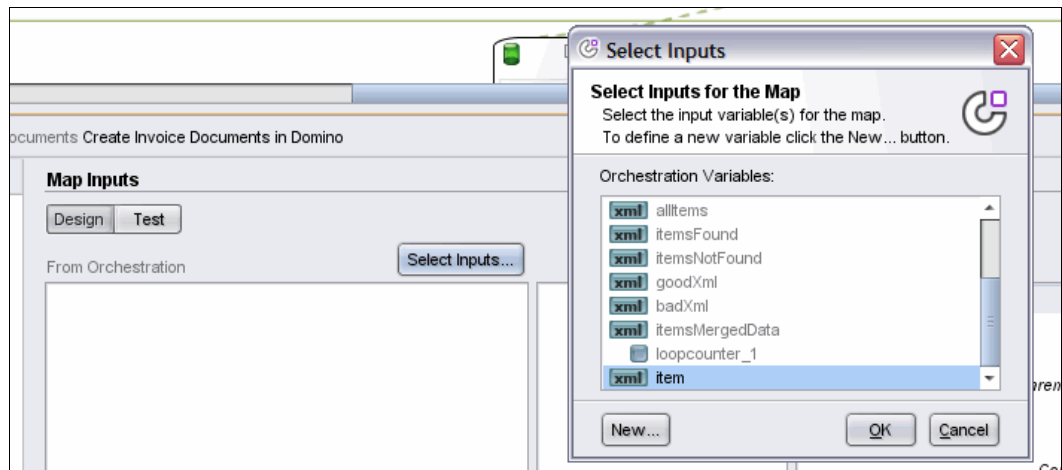

Figure 12-68 Selecting input variable
4. Select **Map Inputs** in the Checklist pane. Click **Select Inputs**. Select the variable **item** from the Select Inputs window, and click **OK**, as shown in Figure 12-68.